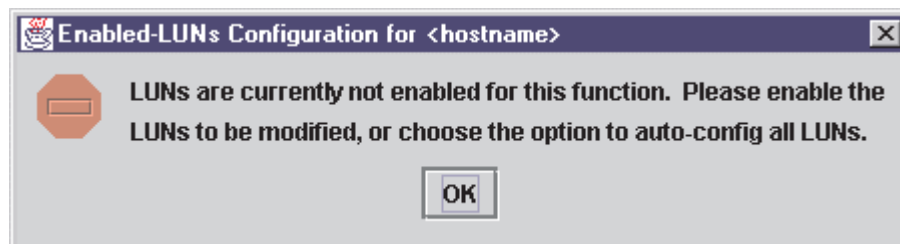

Figure 24. Enabled LUNs Only Warning dialog window
- Click **Enabled LUNs Only** to configure only enabled LUNs for load balancing across the paths within this device. When you click this option for a device with no enabled LUNs, the message shown in Figure 24 displays. Click **OK**.